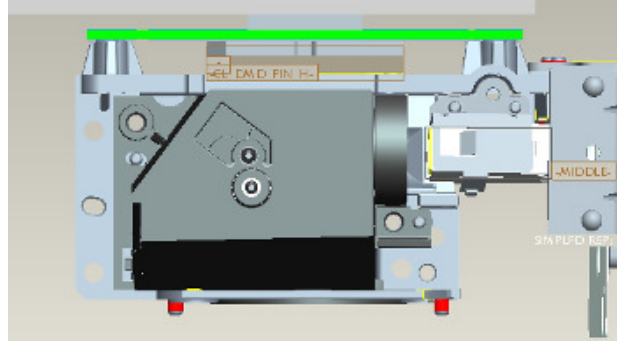

Fig. 7-4
7.4 Assemble Thermal Pad & Gasket Hest-sink then place contact DMD (Fig. 7-4, 7-5).